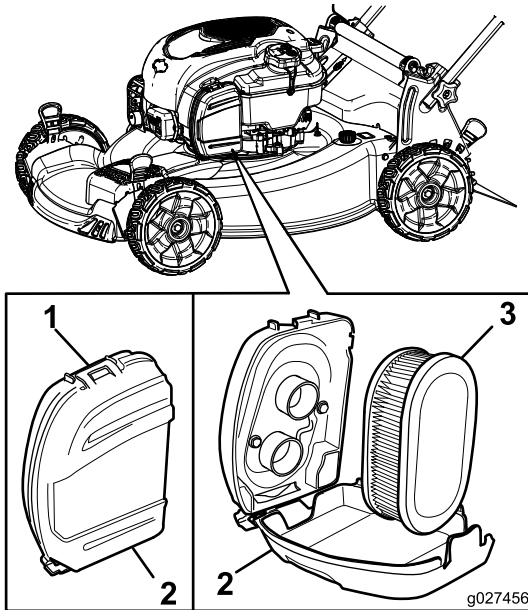

Figure 30
1. Uplclip the top of the air-filter cover (Figure 30).